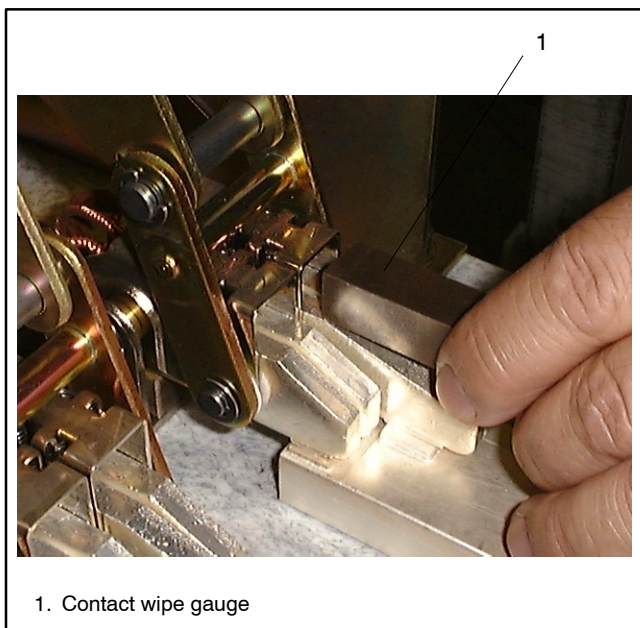

Figure 9-16 Check New Contact
5. After replacing the movable contact, check the contact pressure with the contact wipe gauge at the closed position as shown in Figure 9-16. You should NOT be able to insert the gauge.